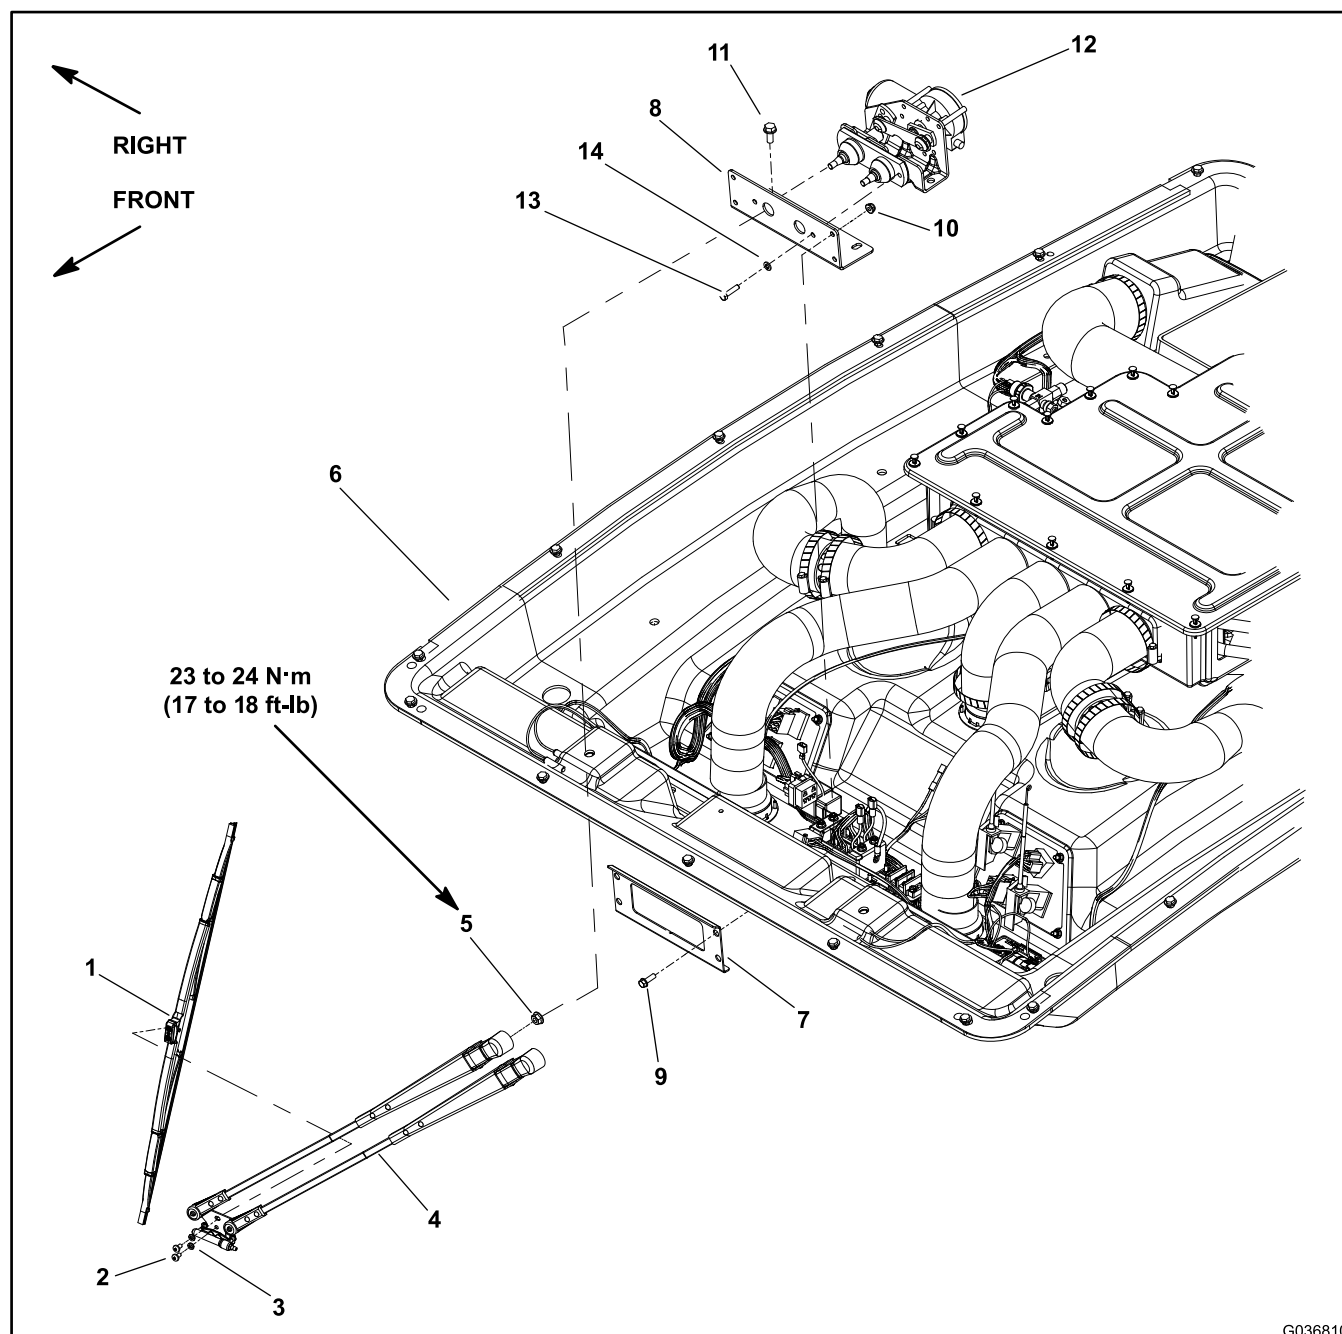

Figure 335
2. Remove the 2 bolts (item 2 in Figure 335) and 2 lock washers that secure the wiper blade to the wiper arm assembly, and remove the wiper blade.
5. Remove the wiper motor components as shown in Figure 335.
1. If required, install the wiper motor components that were removed (Figure 335) and do the following:
- A. If the wiper bracket (item 8 in Figure 335) was removed, apply bead of RTV sealant around the wiper opening on inside of the headliner before you install the bracket.